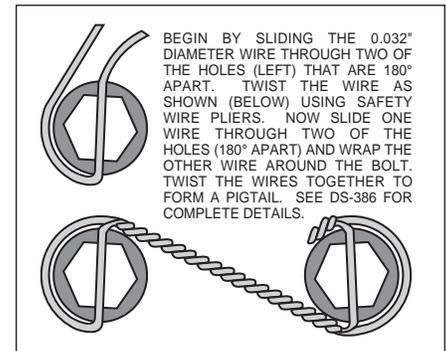

Figure 3. Safety Wire Diagram
- The caliper mounting bracket assembly (1) should be installed first with clean, dry threads on the mounting bolts. The bracket must tighten squarely against the inboard side of the caliper mount bosses on the spindle body. Inspect for interference from casting irregularities, machining ridges, burrs, etc. Slide bolt (2) through lock washer (3) then through the hole in the spindle body where the OEM bolt was removed. Use one thin shim (4) between the bracket and spindle during initial trial fitting. Later, after the caliper, pad and rotor alignment have been checked, and any necessary shims have been put in place, the mount bolts (2) should be coated with red *Loctite*® 271 and torqued to 47 ft-lb.
- With the larger I.D. side of the rotor (5) facing away from the hat (6), bolt rotor (5) to hat (6) through the backside of the rotor using washers (7) and bolts (8). Using an alternating sequence, apply red *Loctite*® 271 to the threads and torque bolts to 155 **in-lb**. For an added measure of security, the bolts may be safety wired using standard 0.032 inch diameter stainless steel safety wire as shown in Figure 3. Please refer to Wilwood's data sheet DS-386 (available at www.wilwood.com/Pdf/DataSheets/ds386.pdf) for complete safety wire installation instructions. Slide the rotor/hat assembly onto the spindle. Install a couple of lug nuts (hand tighten) to keep the rotor/hat assembly in place while continuing with the installation.
- With the bleed screws pointing up, mount the caliper (9) onto the caliper bracket (1) with the self locking hex nut (10), flat washer (11), through the top of the caliper and mounting stud (12) with .035" thick shim (13) and spacer (14) positioned between caliper (9) and caliper mounting bracket (1). Finger tighten. Check to see that the top of the rotor is aligned with the top of the brake pad. If adjustment is necessary, add or subtract flat washers (13). View the rotor (5) through the top opening of the caliper (9). The rotor (5) should be aligned in the center of the caliper (9). If not, adjust the caliper (9) by adding or subtracting shims (4) and/or (16) placed between the spindle assembly and the caliper mounting bracket (1). Finger tighten and recheck alignment. Lubricate caliper mounting studs and nuts with lightweight oil, reinstall the caliper, torque the caliper nuts (10) to 30 ft-lb.
- Remove the bridge bolt from the caliper (9) and install the disc brake pads (15). Reinstall the caliper bridge bolt.